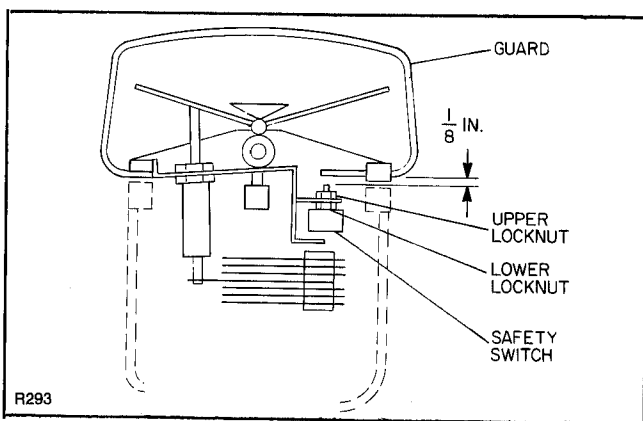

Figure 3-3. Belly-button Safety Switch Adjustment
3-9. Belly-Button Safety Switch Adjustment. (Figures 3-3 and 3-4)
3. Use two of the four socket head cap screws (27) and two 5/16-18 nuts (not parts of the assembly) to re-fasten the strap (18) and belly-button safety guard (13) to the control head, temporarily.
4. Refer to figure 3-3 and check gap between guard and switch plunger for 1/8-inch clearance.